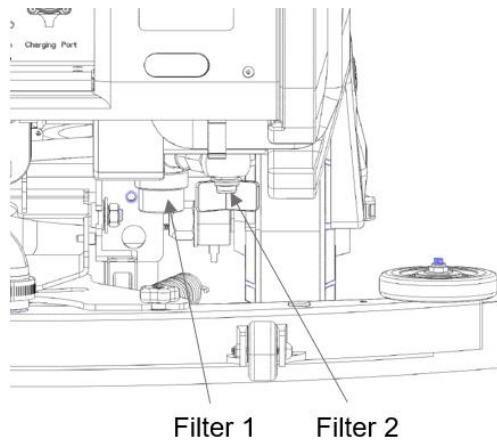

FIG.32
4. Remove the solution tank filters by rotating the filter bowl counterclockwise. The filters are shown in FIG.32.